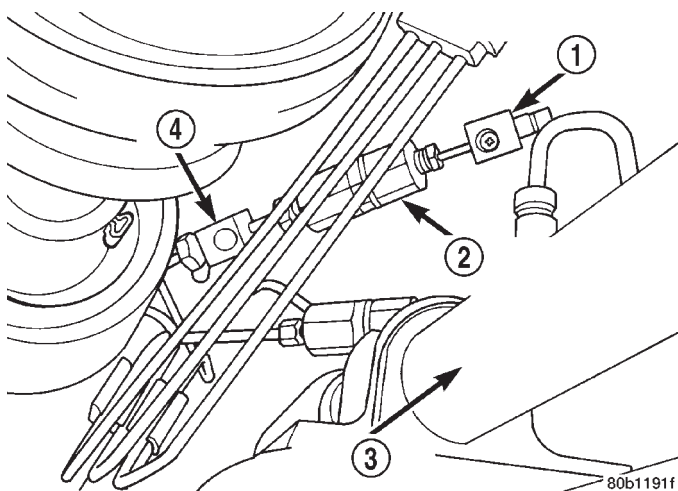

Fig. 23 Proportioning Valve With Pressure Test Fittings Installed
(5) Install the proportioning valve with the pressure test fittings installed, in the chassis brake tube (Fig. 23). Tighten both tube nuts to a torque of 17 N·m (145 in. lbs.).